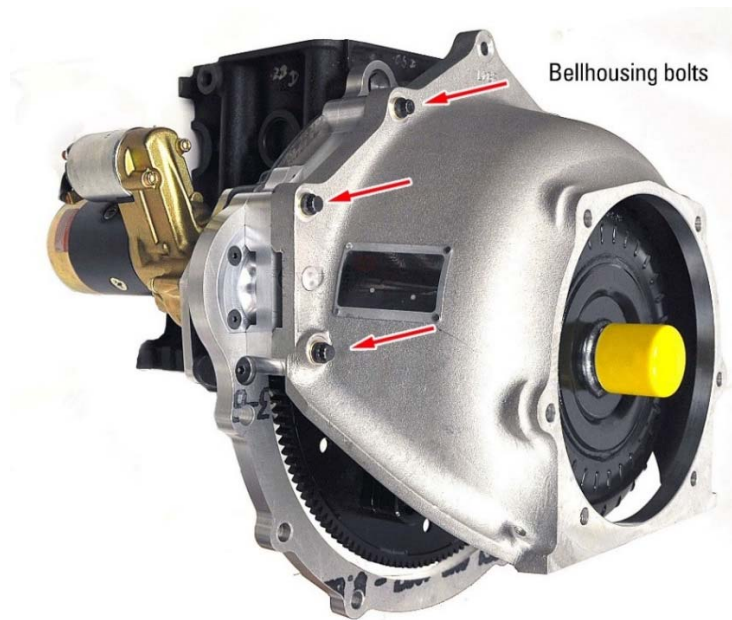

Figure 5: Complete assembly
Step 6: The transmission locates via the dowel pins pressed into the Adapter Plate. After installing the Torque Converter (#14) in the transmission, slide the Bellhousing (#11) over the dowel pins - the pilot on the Torque Converter will locate inside the Crankshaft Adapter. Secure the transmission to the engine using the short Bellhousing Bolts (#12) – short bolts include five (5) 1.500" long and one (1) 1.750" long counterbore bolts. See Figure 5 below for completed assembly. Note: Torque Converter pull-out should measure .125" to .185"